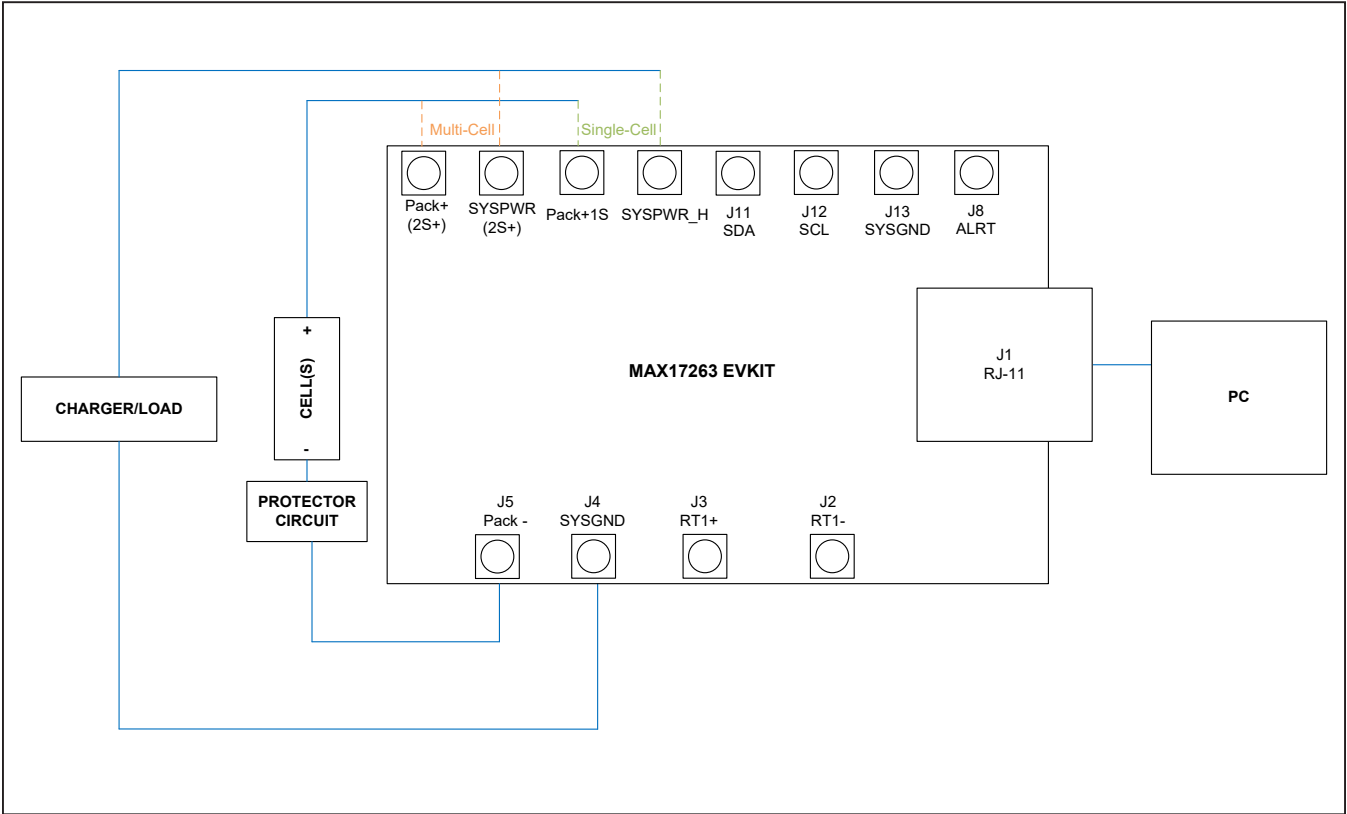

Figure 1. MAX17263 Board Connections
5) Make connections to the EV kit board based on cell pack configuration as shown in Figure 1. The load or charger circuit can be connected at this time as well.